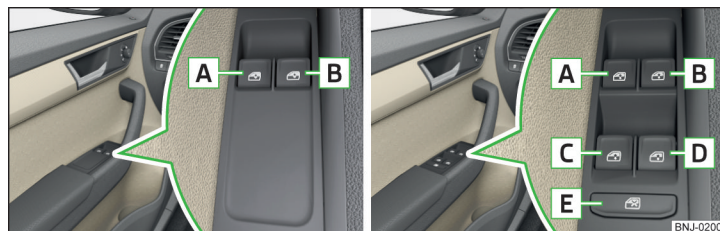

Fig. 39 Buttons for window-openers: Version 1 / version 2
Depending on the equipment configuration, the front windows - **Variant 1** or the front and rear windows - **Variant 2** be operated by pushing/pulling the door buttons in the driver's door » Fig. 39.
In **Variant 2** » Fig. 39 The driver's window can be automatically fully opened / closed by pushing or pulling the button up to the latch. Pushing/ pulling the button again causes the window to stop immediately.
- **Variant 1** of the power window » *Fig. 39 on page 51* **has no** force limiter. The windows should be closed carefully – risk of injury!
- The **passenger window in variant 2** of the power window » *Fig. 39 on page 51* **has no** force limiter. The window should nevertheless be closed carefully – risk of injury!